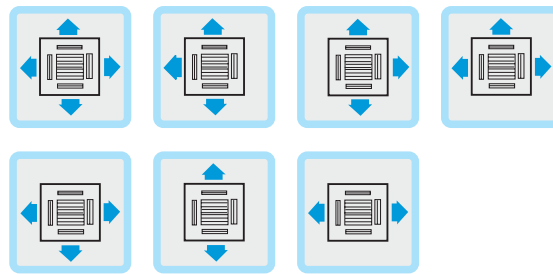
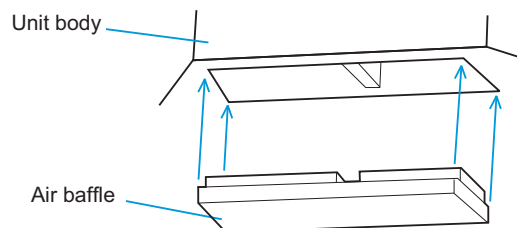

Figure 2.3
Figure 2.4
5. Based on the shape of the room, determine the airflow directions for the installation site. See Figure 2.3 for the schematic on the direction of airflow. If part of the air vent must be blocked, you may insert an air baffle at the vent of the unit body to block the air flow. See Figure 2.4.